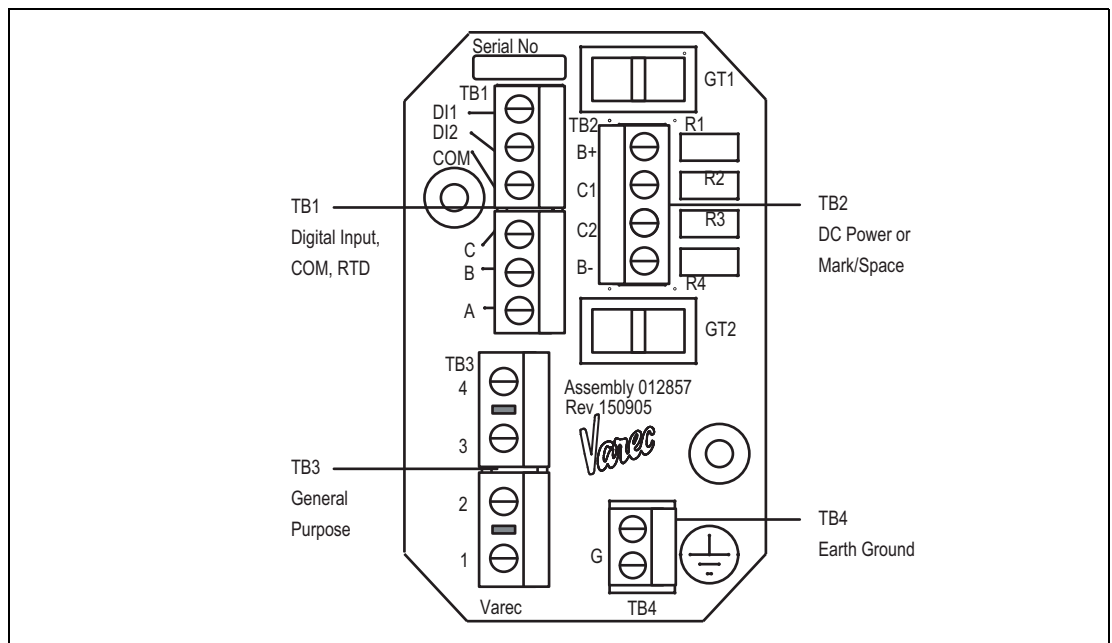

Figure 4-6: Earth Ground Connector, Terminal Circuit Board (Junction Box)
All wiring from the 2900 FTT to the tank gauging system is terminated at one or more junction boxes connected to the transmitter housing. The standard junction box, provides 14 terminals using pluggable terminal connectors, and includes two earth ground terminals. The standard junction box is shown in Figure 4-6. The 1900 MWT-compatible junction box contains 12 terminals. One junction box is included in the standard configuration, and fittings are provided for additional junction boxes if they are required.
**Note** Earth Ground is located on the terminal circuit board in the junction box as shown in Figure 4-6. For the 1900 MWT-compatible junction box, see Figure 4-9 on page 25.